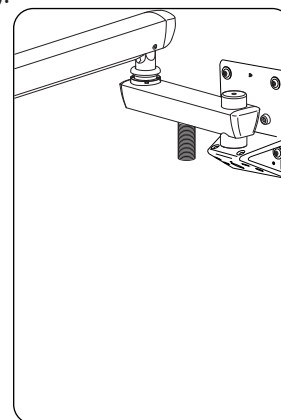

Figure 7
2. Remove End Caps on Rigid Arm. Set screws at both ends of the Rigid Arm using a 3/32" hex key to adjust rotational tension (Figure 7).
3. Route the umbilical and foot control tubing through the cabinet for utility center installation (Figure 7).